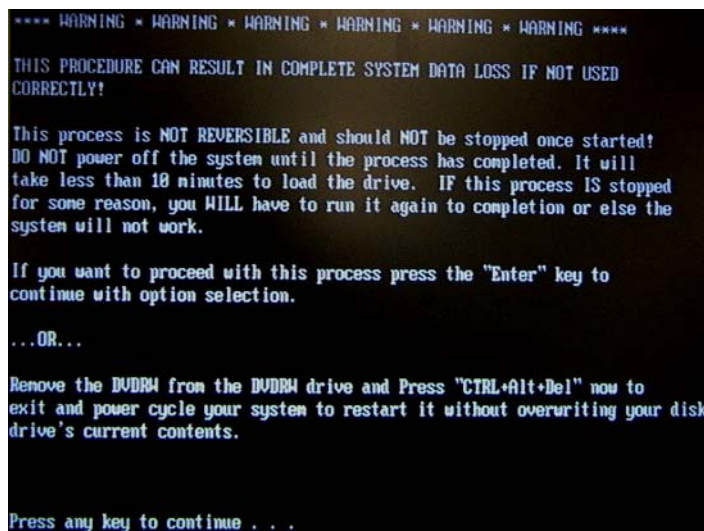

Figure 8-77 Update message
- 7.) Press any key to continue when below message display as shown in Figure 8-77 on page 8-81 .